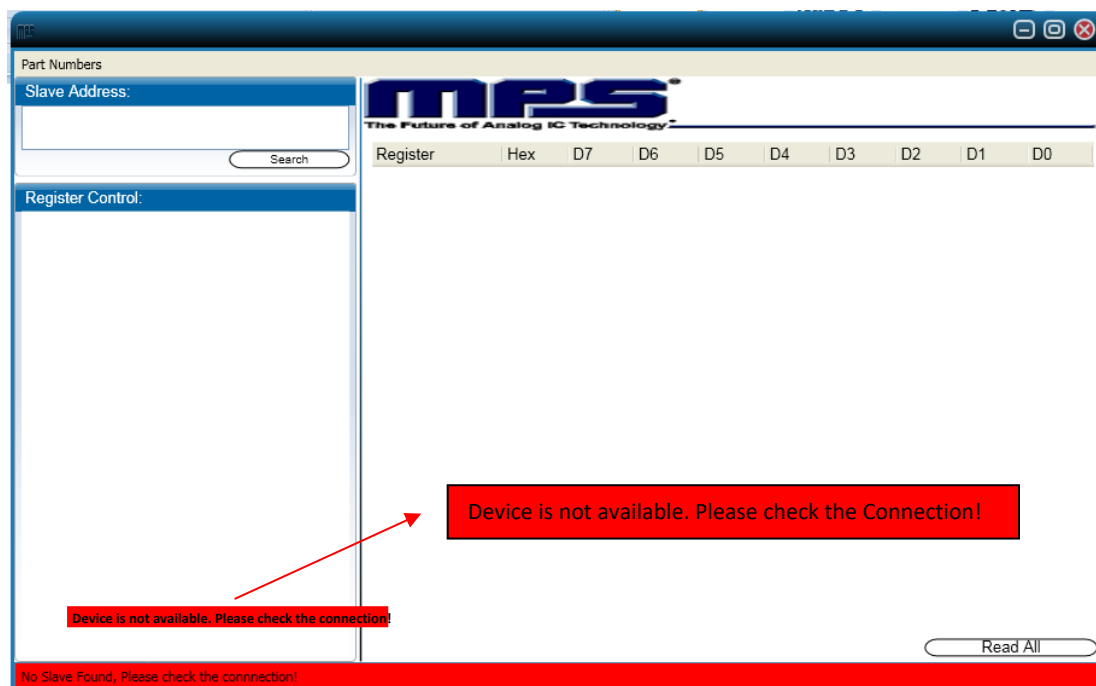

Figure 9: Warning Indicates Unsuccessful Connection – USB/I2C Communication Interface not Connected
- 2) "Device is not available. Please check the Connection!" This means that the USB I²C communication interface is not connected (see Figure 9).